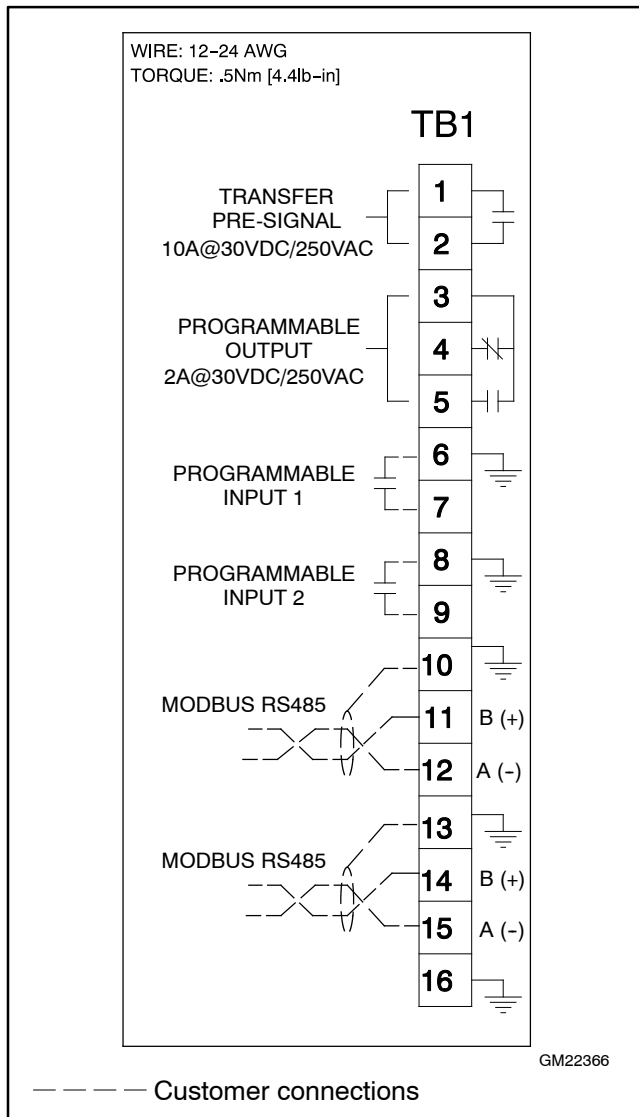

Figure 10-3 Terminal Strip TB1 Connections
3. Connect the Modbus® input and output to the terminals shown in Figure 10-3. Use #12-24 AWG twisted-pair shielded cable; Belden cable #9841 or equivalent is recommended. Connect A to negative (-), B to positive (+), and the shield to ground as shown in Figure 10-3.